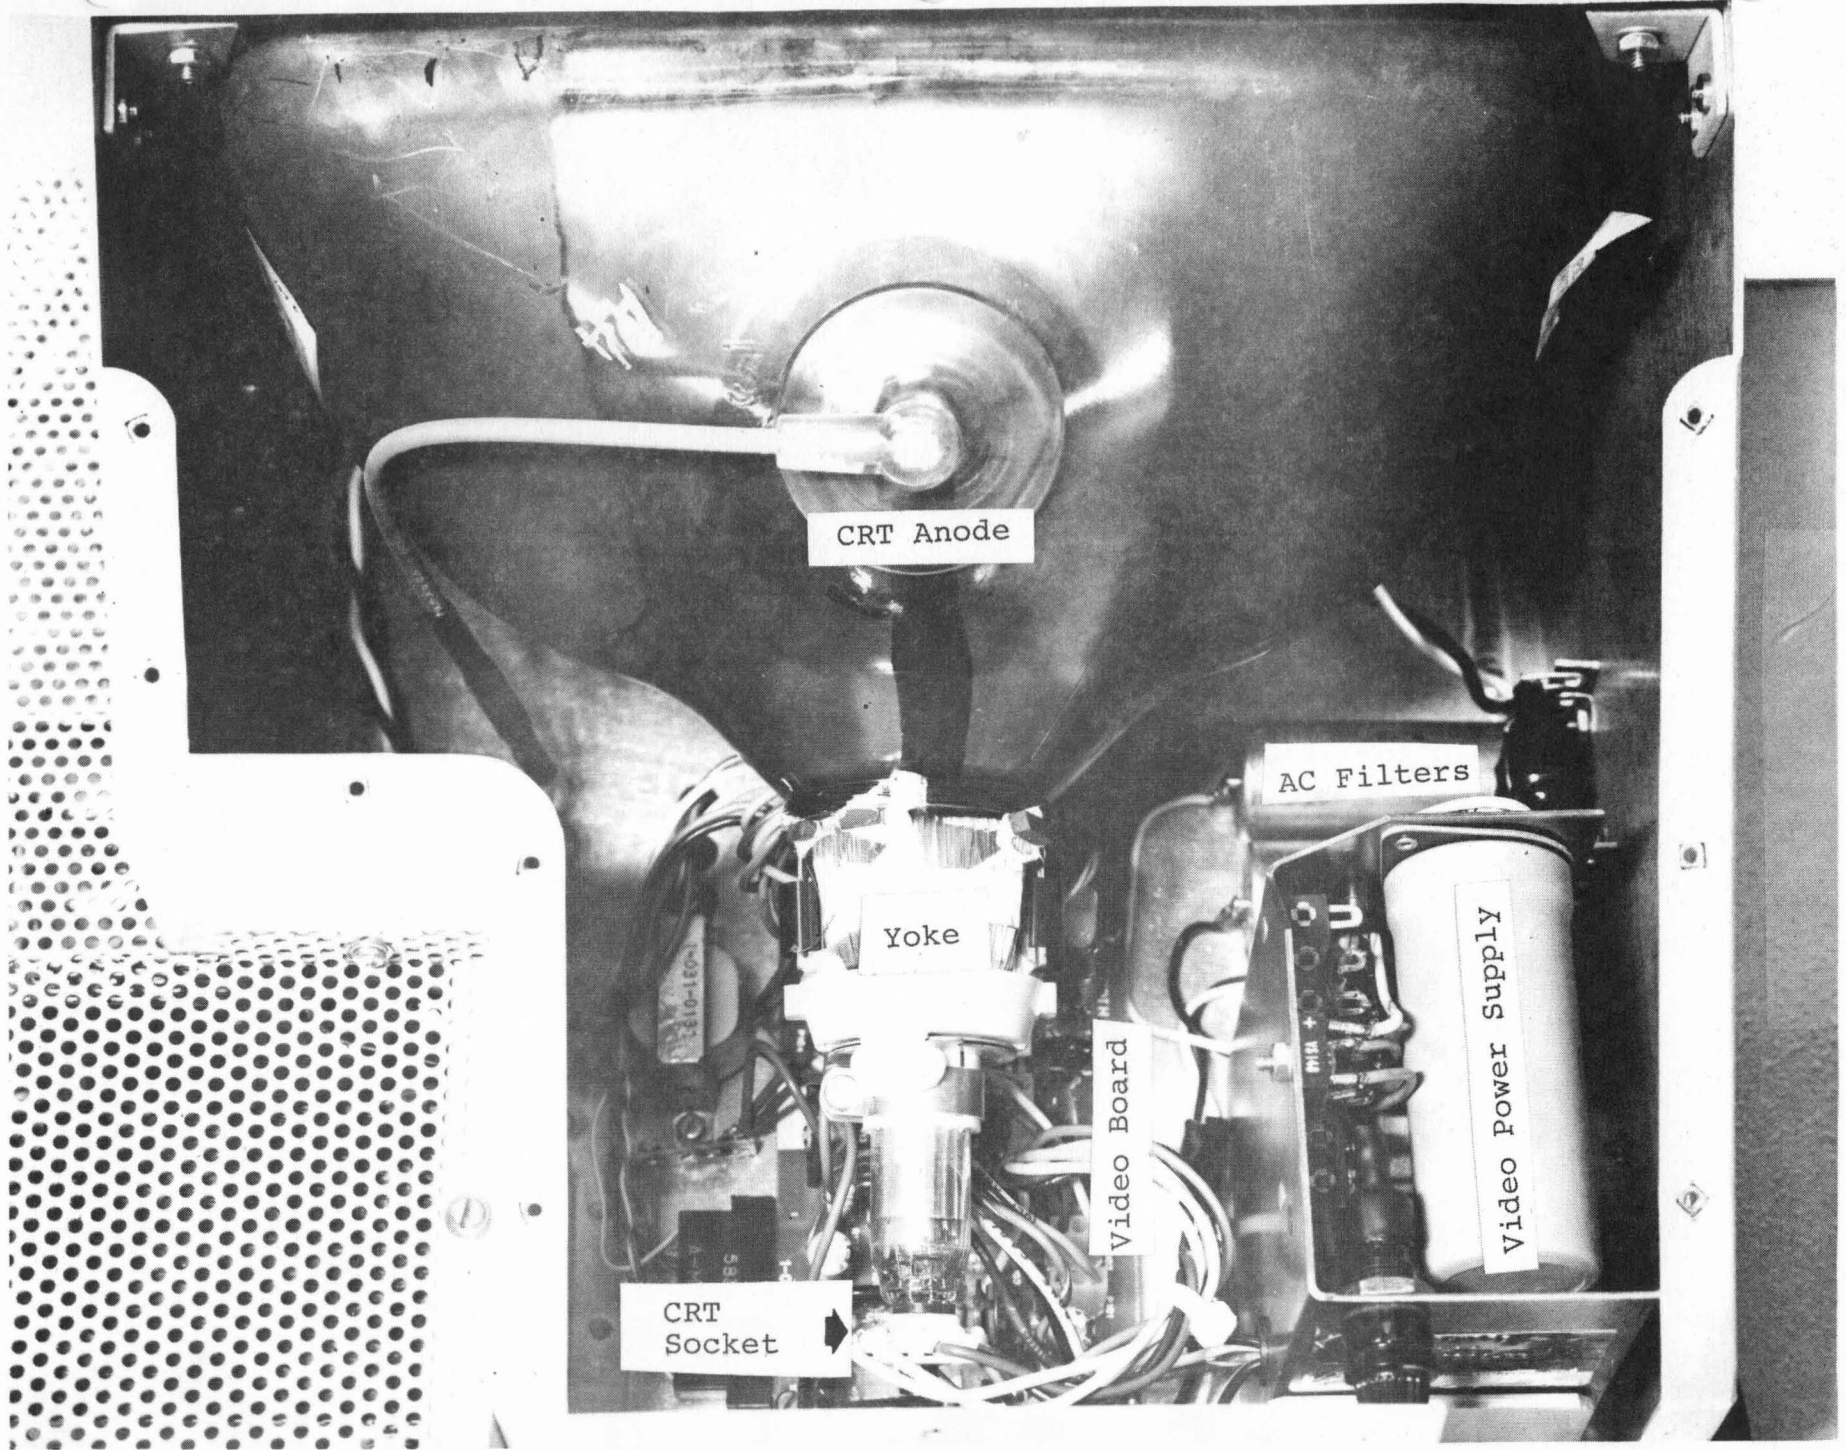
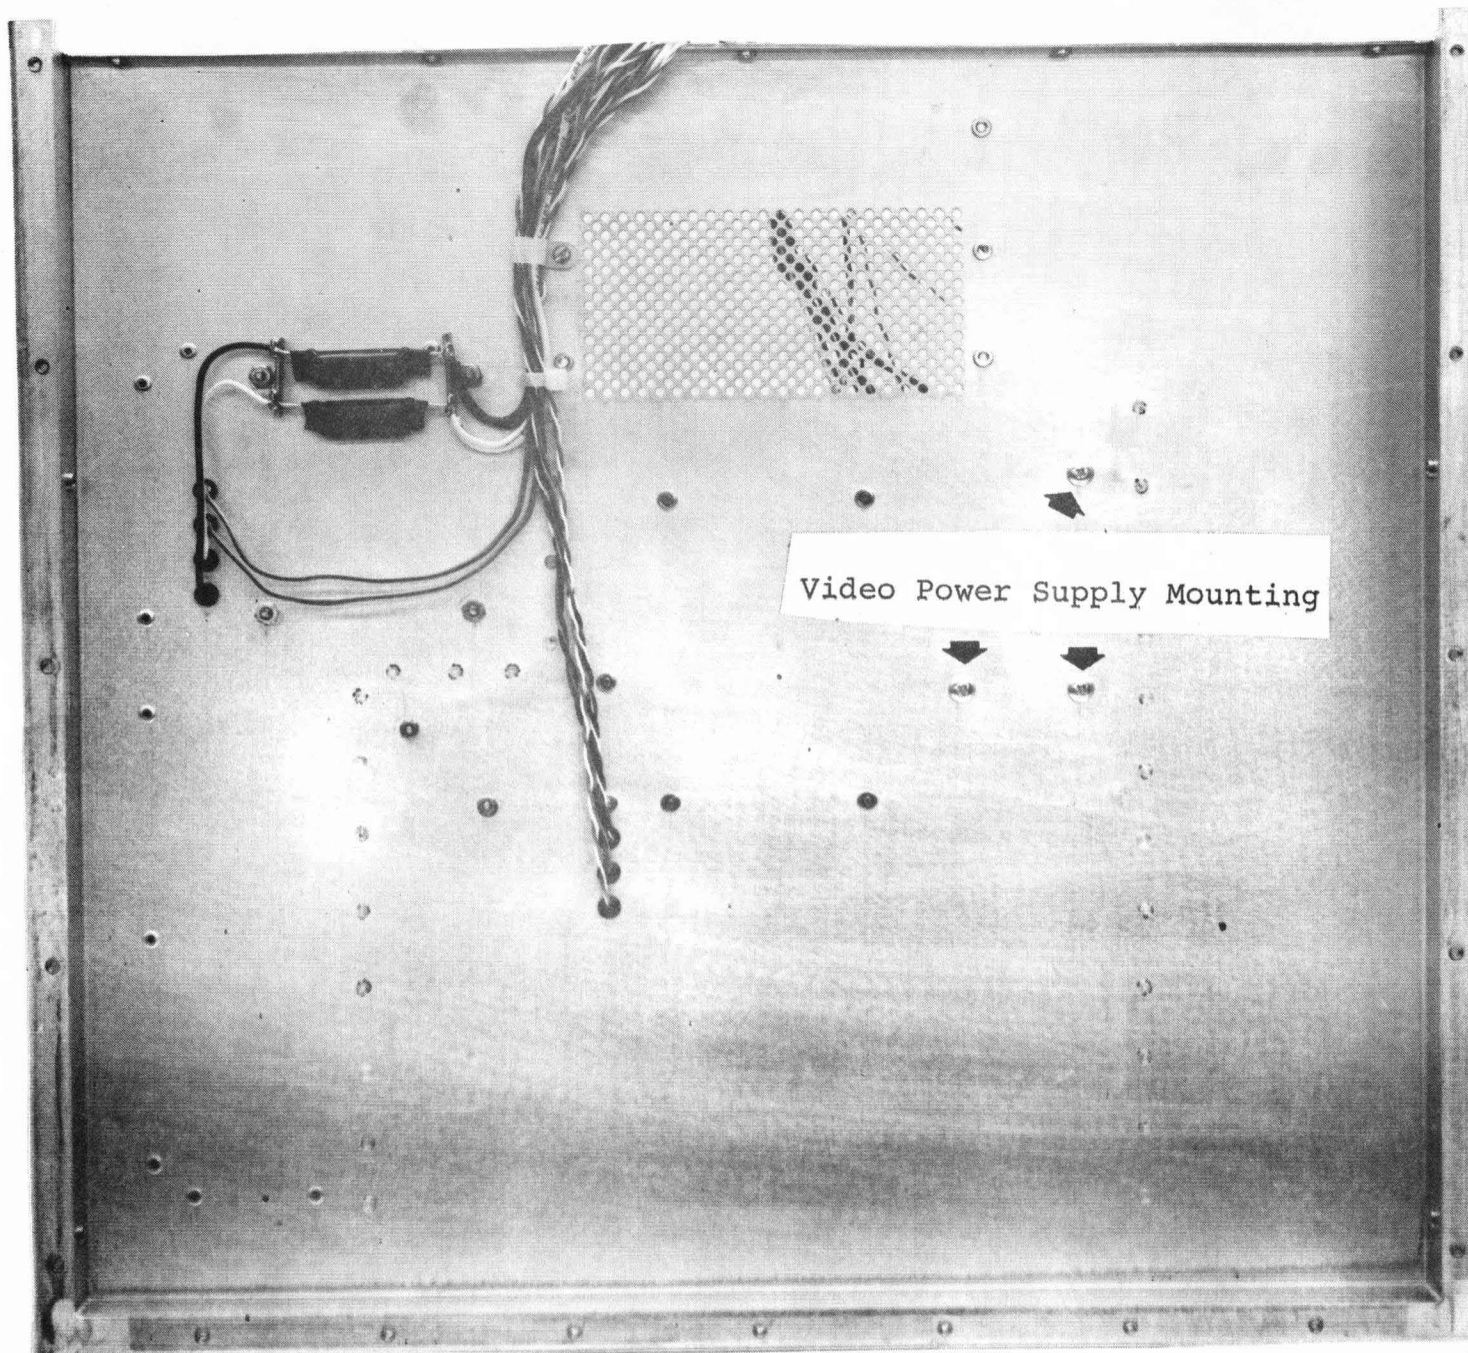
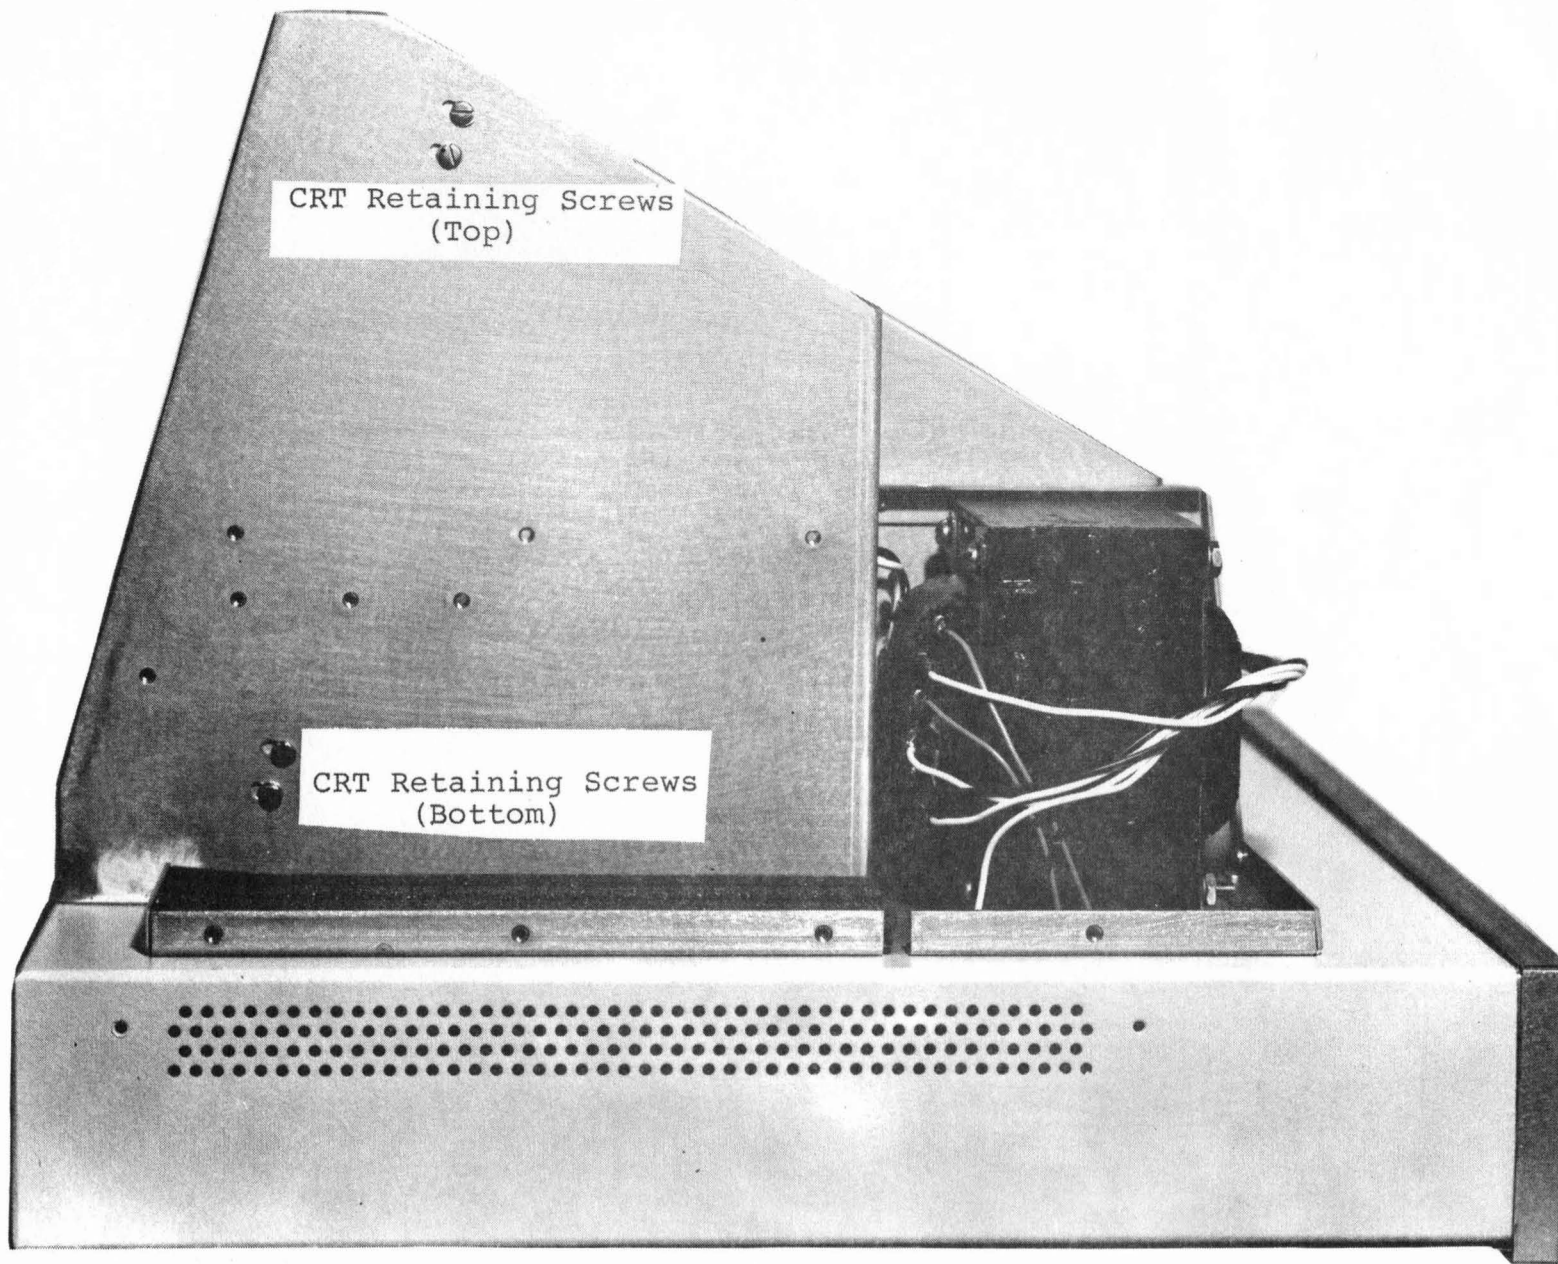

Figure 5-7. Video Enclosure
Figure 5-8. Chassis Cabling
Figure 5-10. CRT Mounting (Right Side)
Support the Video Power Supply (Figure 5-7), invert chassis and remove the three (3) Power Supply Retaining Screws (Figure 5-8). Set chassis upright and unplug Power Supply cables. Remove Video Power Supply.
Unplug CRT socket and yoke cables (Figure 5-7). Support the CRT and remove four (4) CRT retaining screws on each side of Video Shield (Figures 5-10, 5-11). Carefully lift the CRT up and out of Video Shield.
Refer to Figure 5-7. Remove Video Board edge card connector. Unplug Inductor cable. Remove four (4) corner screws and remove Video Board and spacers.